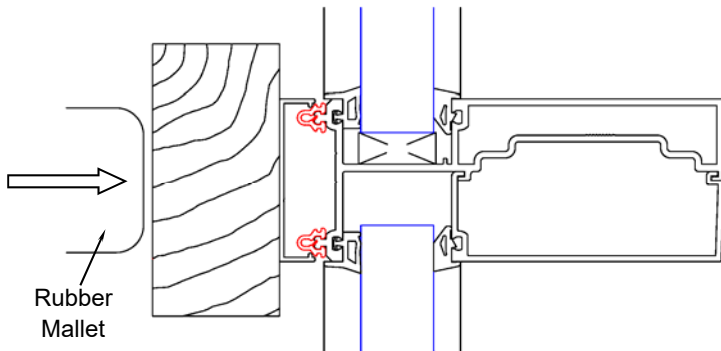

Figure 44
- * Place face cover onto clips and “snap” onto the system. It should take very little force to perform this, however, it may require the usage of a rubber mallet and a clean piece of scrap lumber to snap the cover on. (see figure 44)